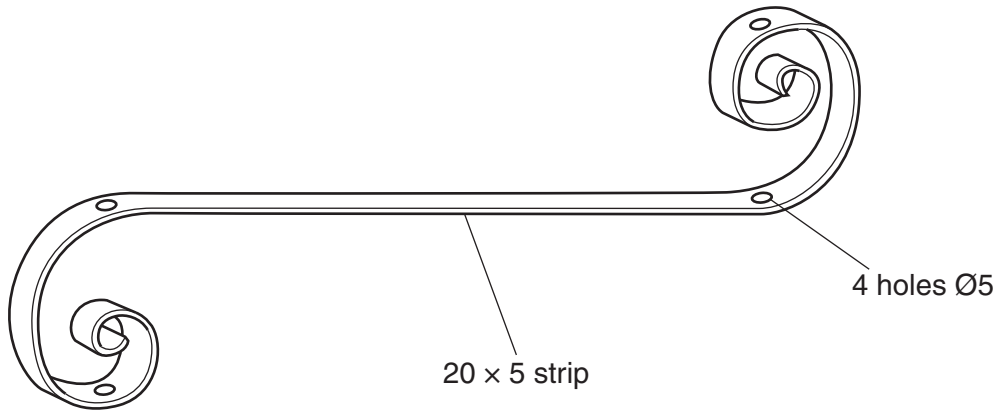

Fig. 3
Fig. 3 shows one of the scrolls from the decorative metal screen.
(e) (i) State a **suitable specific metal** for the scroll shown in Fig. 3.
- (ii) Describe, in detail, how the scroll shown in Fig. 3 would be manufactured. Give details of any special tooling and quality control checks that would be used. Use a flowchart and/or annotated diagrams to support your answer.